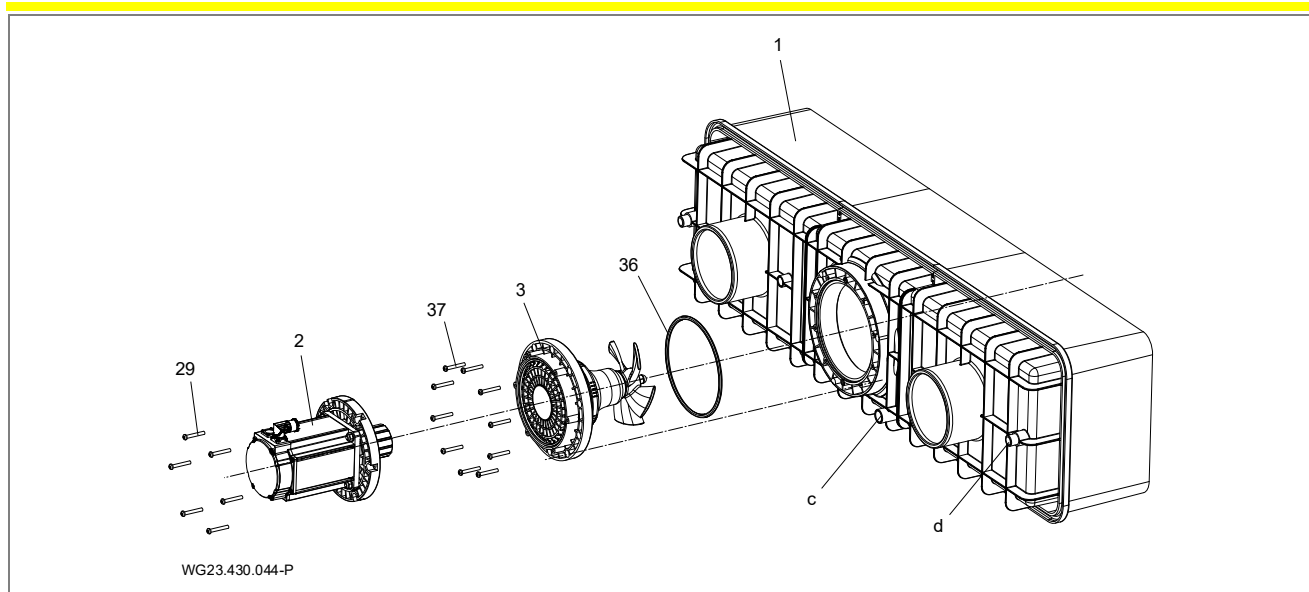

Fig. 16
1. Remove grease from the connection nozzle (d, see "Fig. 16" on page 22) on the plastic housing (1) and the connection socket of the cable protection tube (12) with PVC-U/ABS cleaner.